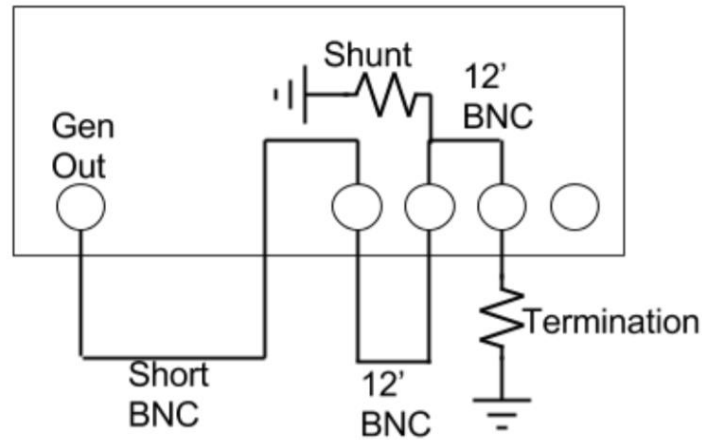

Figure 2
2. Consider an oscilloscope and function generator connected as shown in Figure 2. Calculate the voltage waveforms you expect to see at channels 1, 2 and 3 after gen out drives a 1V step onto the line for the values of shunt and termination resistors listed below. Discuss both rising and falling edges.